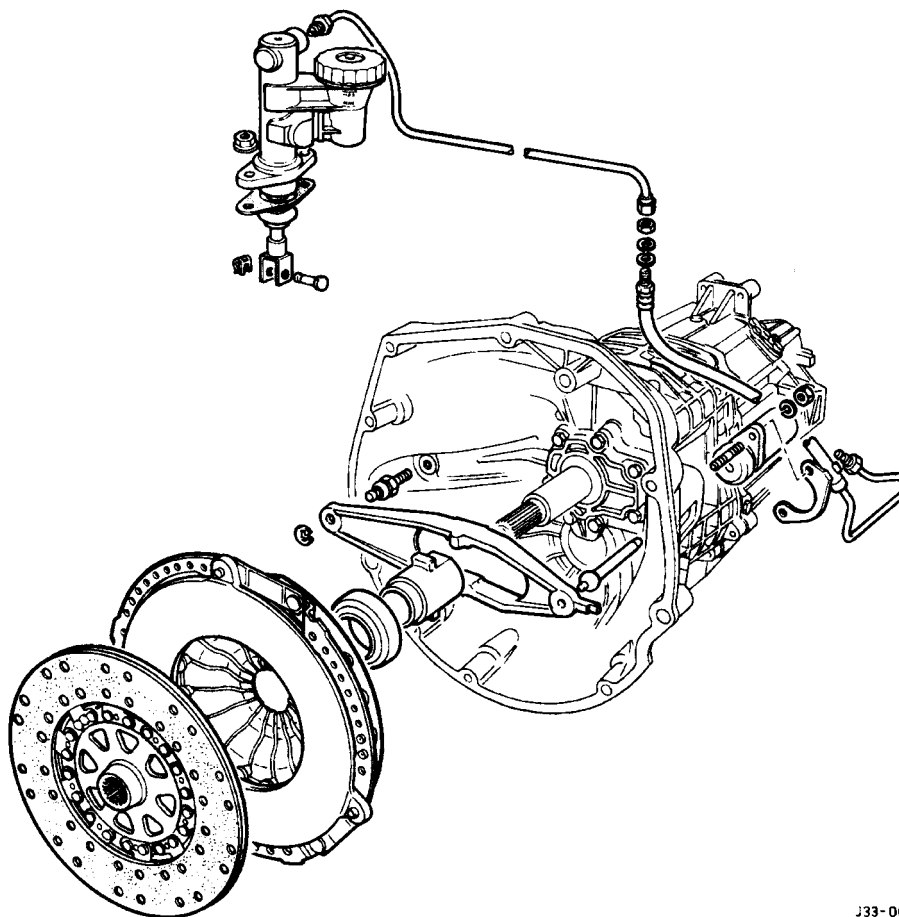

Fig. 1 The Clutch Assembly
- Displace the selector shaft cover (1 Fig. 1).
- Remove the selector shaft to selector shaft yoke retaining pin (2 Fig. 1), and remove the yoke (3 Fig. 1).